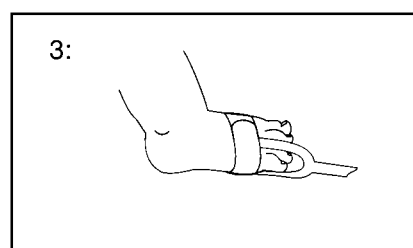

Fig. 29 Correctly attached LNOP® Neo sensor
- 3 The opening in the receiver window must be completely covered by the foot (Fig. 29).